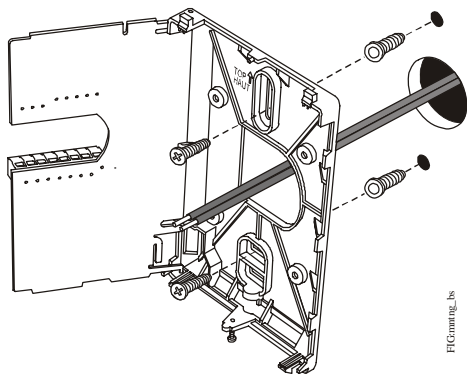

Figure 3: Securing the Thermostat Mounting Base to the Wall
- Position the thermostat mounting base on the wall and use the two mounting screws (included with the thermostat) to secure the base to the surface as illustrated in Figure 3.